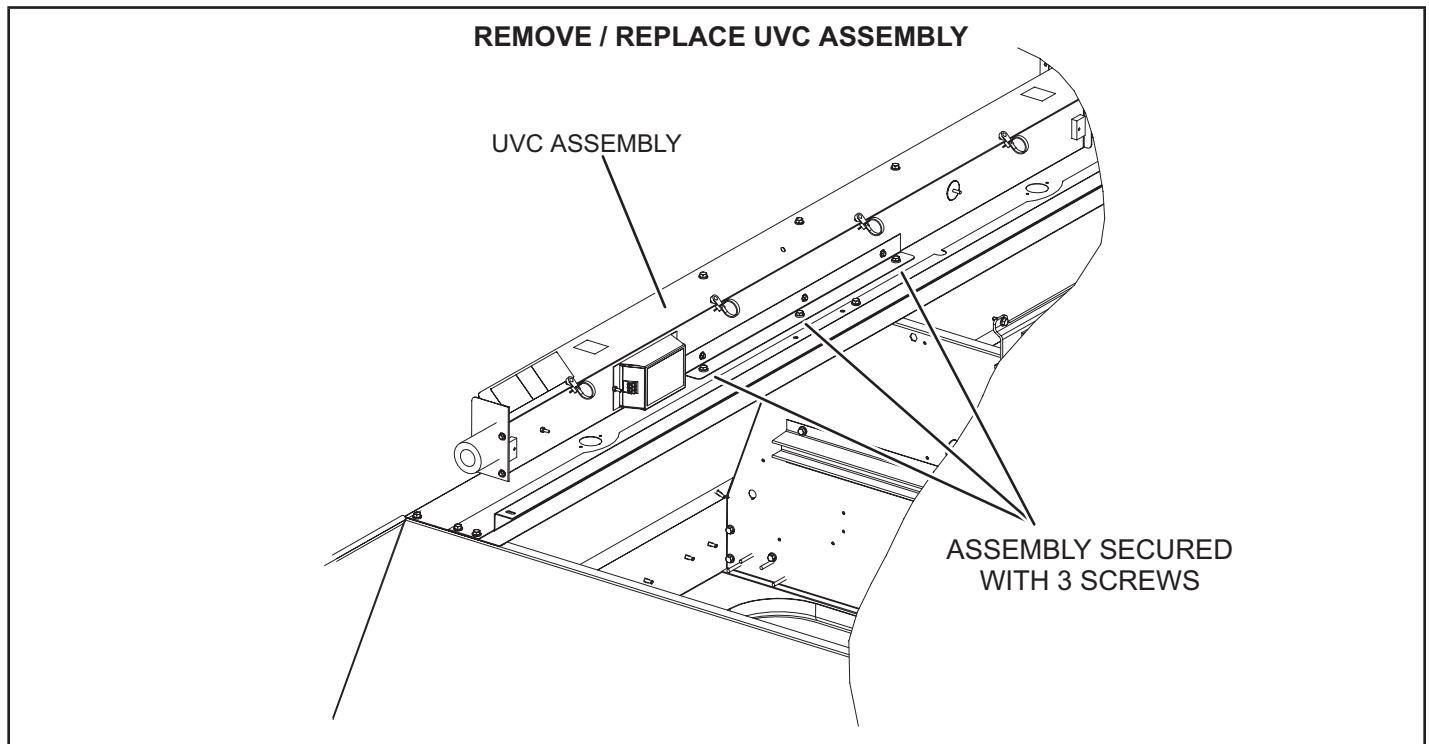

FIGURE 27
- 5 - Remove and retain the (3) mounting screws securing the UVC assembly. Carefully remove the complete UVC assembly out through the blower access door. See FIGURE 27.